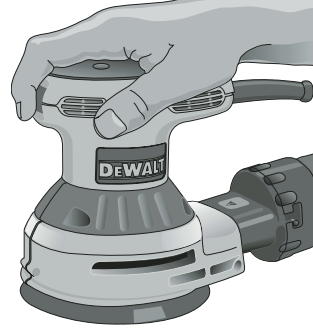

FIG. 6
| C. Sanding pad                 | F. CFS disc (Fig. 6)   |
2. As part of CFS (Controlled Finishing System®), your sander is equipped with a replaceable disc (F) which is located between the pad (C) and the sander body (G). It is designed to increase the dust collection efficiency and control the pad speed while the unit is off the work surface. The disc is designed to be a consumable part and will occasionally need to be replaced. Replacement is necessary when the pad speed increases very dramatically when the unit is lifted from the work surface.
- TO REPLACE YOUR CFS DISC (FIG. 6)**
- b. Remove the pad (C).
- c. Remove worn CFS disc (F).
- e. Align the notches (H) on the CFS disc with the seams in the sander body.